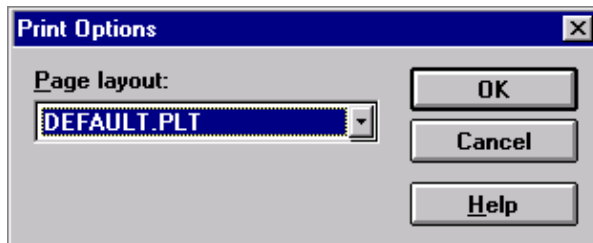

Fig. 41 The Print Options dialog box.
- 3 Select 'Print Options', and the Print Options dialog box appears, see Fig. 41.